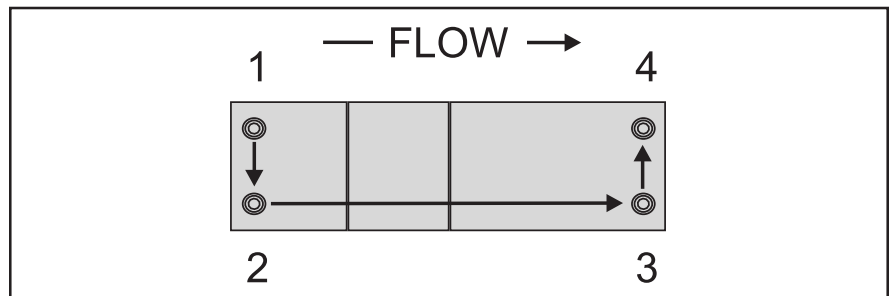

Figure 2-5 Mounting Screws Torque Pattern
- Using a torque wrench and a metric hex key, tighten the screws to the torque value as described in Table 2-2 and Torque Pattern Figure 2-5.